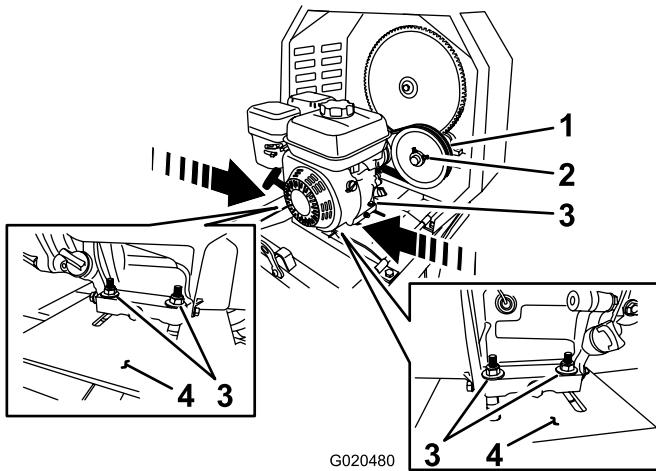

Figure 55
- B. Loosen the nuts and bolts that secure the engine to the engine deck (Figure 55).
- **Increase the air gap**—move the engine **away** from the idler pulley (Figure 55).
- **Decrease the air gap**—move the engine **toward** the idler pulley (Figure 55).